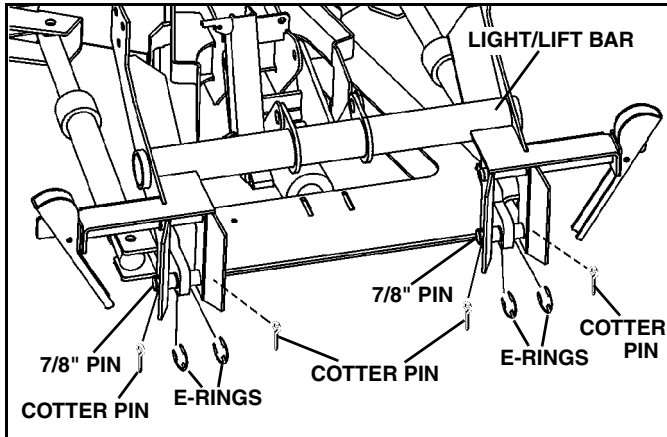

Figure 1-2
6. Place light/lift bar over A-frame lugs. (See Figure 1-2)
7. Insert the 7/8" pin from mounting parts bag through the light/lift bar and A-frame lug. (See Figure 1-2).
8. Insert the E-rings to hold center A-Frame lug. (See Figure 1-2). Insert cotter pins on each end of pin to hold pin in place. Bend cotter pins (See Figure 1-2) to ensure that pins do not work loose.